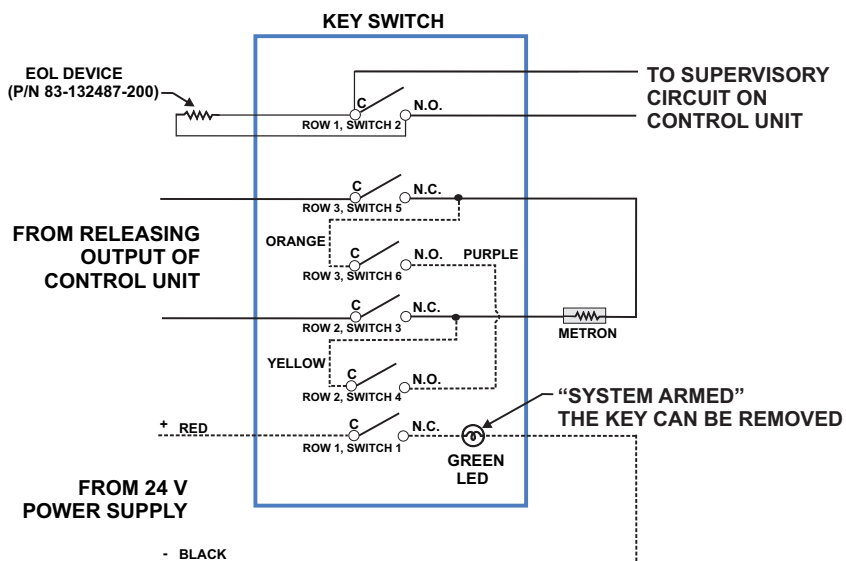
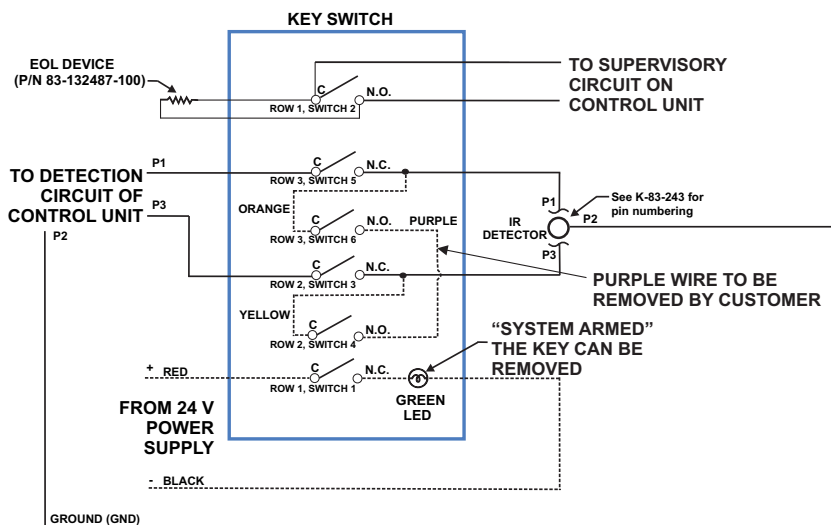

Figure 1. Wiring Diagram, Release Circuit with Key Removed
Figure 2. Wiring Diagram, Detection Circuit with Key Removed
- 3 x SPST switches (NO)
- 3 x SPST switches (NC)
- The remaining contact breaks the actuation circuit and shunts the metron when wired in accordance with Figure 1.
Figure 1 and Figure 2 show wiring diagrams for the Key Maintenance Bypass Switch.
Table 1: Wiring Diagram Legend for Figure 1 and Figure 2